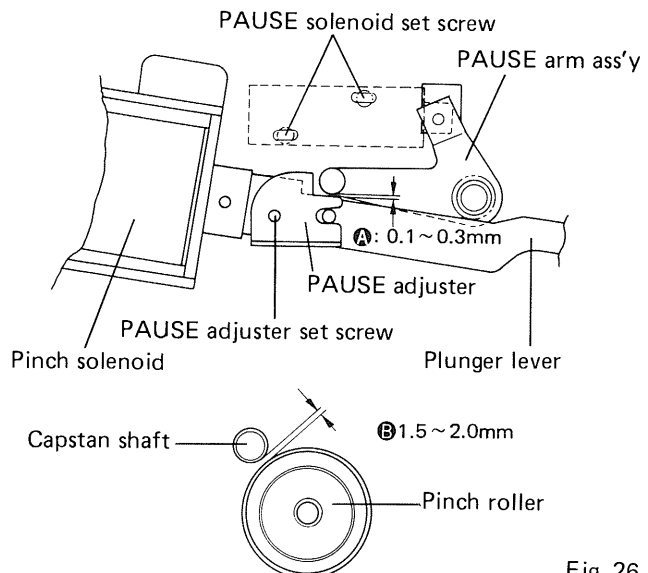

Fig. 26
1. Operate the set at playback and loosen the PAUSE solenoid set screw and adjust the solenoid position so that the clearance A between the PAUSE adjuster and PAUSE arm ass'y in Fig. 26 becomes 0.1 ~ 0.3mm.